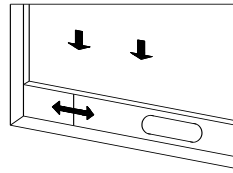

fig.2
- insert the heat pipe assembly (the end of the exhaust joint) into the back panel vent slot (push to the left) and complete the assembly (as shown in figure 2).